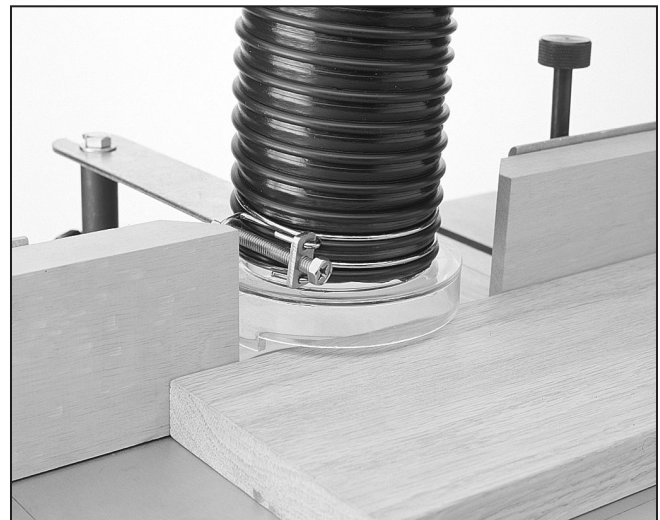

Figure 19. Safety guard adjusted properly.
Step 2 - Loosen the lock knob and lower the safety guard as close to the workpiece as possible without restricting stock movement. **Figure 19.** After the guard has been positioned, securely tighten the lock knob on the back of The Rebel® table.
Step 3 - A dust collector or shop type vacuum can be connected to the top of the safety guard. Use a 3" flex hose and secure with a hose clamp. **Figure 19.** When connecting a dust collection unit, make sure that the hose and other dust pickup devices do not hamper your movement or stock feeding. Please note that the safety guard is not intended to be used as a hold down. All hold downs and other safety devices must be used correctly so they will work as intended.